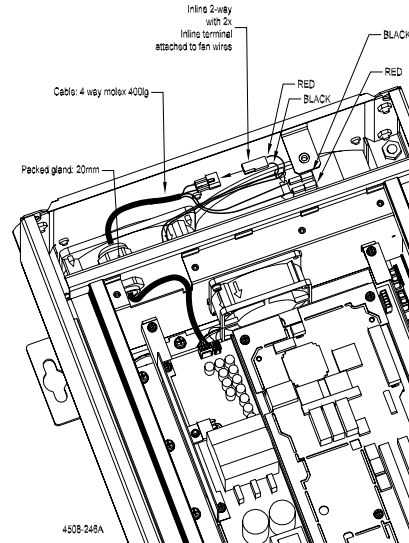

Figure 3.29: Fan Connections
- 1) To remove the fans, cut the cable ties and unplug the inline connector and the spade terminals off the larger fan, see figure 3.29.